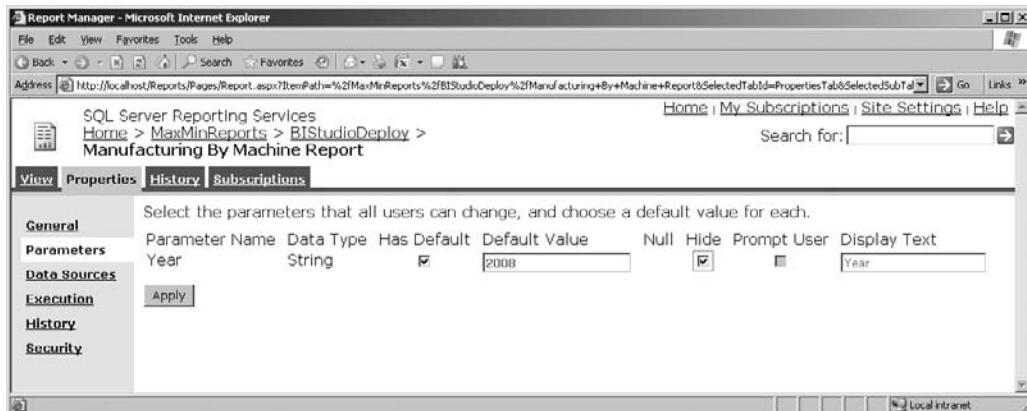

Figure 18-8 The Parameter management page with a hidden parameter
7. Check the Hide check box for the Year parameter. The Parameter management page appears as shown in Figure 18-8.